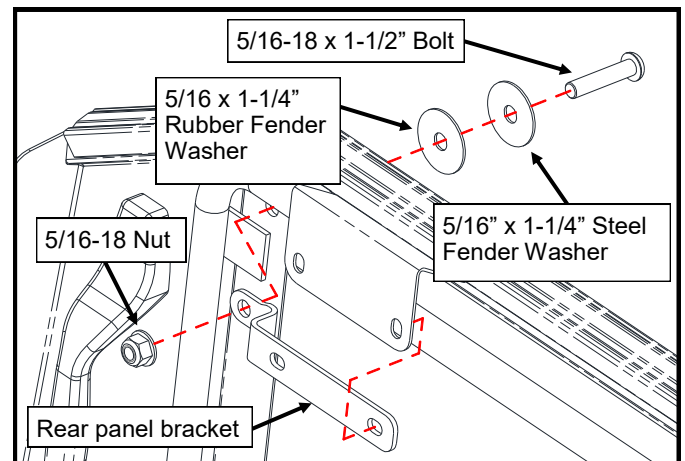

Figure 10.4: Rear Panel to Screen bolts
- 10.4 For the upper (2) holes, place a rear panel bracket inside the screen frame and under the rear panel tabs (see Figure 10.4) and align the brackets to the drilled holes. Install 5/16-18 x 1-1/2" bolts, 5/16" I.D. rubber and steel fender washers and 5/16-18 nuts through all (4) drilled holes in the rear panel and screen frame. Tighten snug.